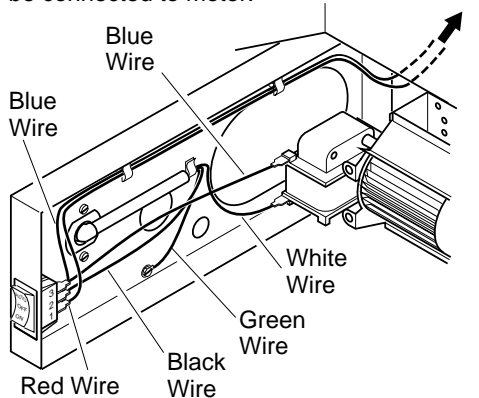

Figure 12 - Wire Attachment
13. Attach all five remaining wiring terminals to the appropriate switch or motor terminal. Carefully note the correct color coding (see Figures 12 and 14). Push female wire terminals fully onto male terminal.
14. Secure wires into the appropriate plastic wire clips (see Figure 12).